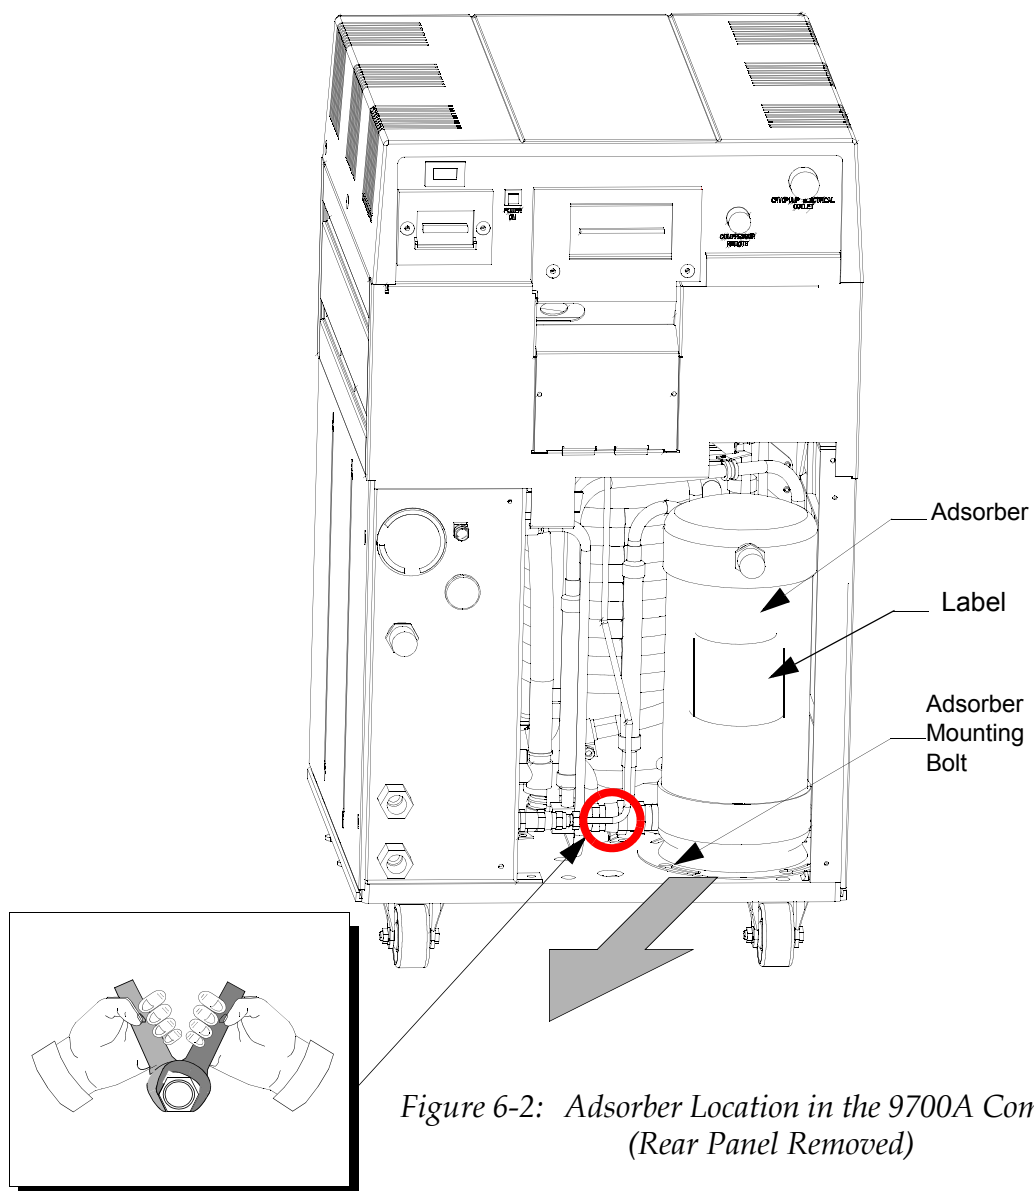

Figure 6-2: Adsorber Location in the 9700A Compressor
4. Using a 7/16 inch (11mm) wrench, remove the adsorber mounting bolt as shown in Figure 6-2.
5. Move the adsorber from under the mounting tabs in the base as shown in Figure 6-2 and remove the adsorber from the Compressor.
10. Record the adsorber replacement date on the label as shown in Figure 6-2, and also note that the next adsorber replacement should be performed every three years.